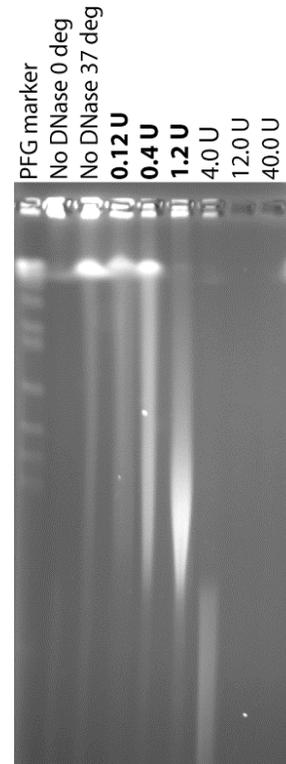

Figure 1. Pulsed field gel. This is what a good PFG should look like...gradual and consistent changes in fragment sizes as you increase DNase concentrations.
18) Run Pulsed field gel (PFG). See Figure 1. Optimal concentrations for DNase-chip are in bold. For DNase-seq, I have mostly used the smearing pattern that looks like 0.4 U DNase concentration. We load 1/3 of plug into each lane, and slide the plug into the side of each well using two metal spatulas.